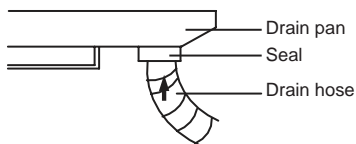

Fig.24
- (1). For determining the position of the drain hose, perform the following procedures.
- (2). Insert the drain pipe to the drain outlet of the unit and then tighten the clamp securely with tape. (Fig.24)
- (3). Connect the extension drain pipe to the drain pipe and then tighten the clamp with tape.